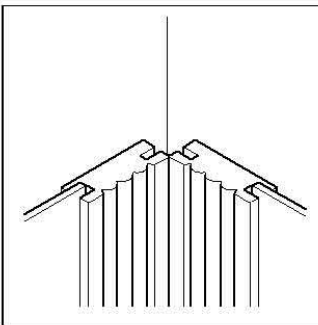

Fig 6. Butt jointing strips tightly together for internal corners
For internal corners, use either end or joint strips, butting them tightly together as shown in **Fig 6**
7. Having ensured all panels and jointing strips fit correctly, dismantle panels and start to fix by inserting first panel and fix the jointing strip. Repeat until all panels and jointing strips are fixed. Having fixed all the panels and jointing strips, the dado rail can be fitted. Measure and position all of the dado rail to check for good fit before fixing. Figure 6 shows the best way to fit the dado at the top and bottom of stairs (equal angled pieces).